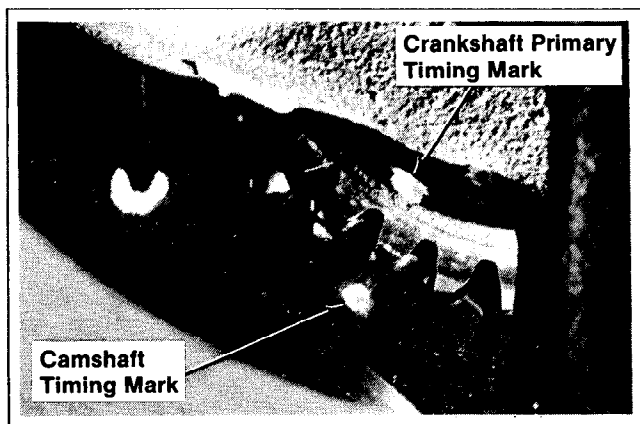

Figure 12-24. Crankshaft Gear/Camshaft Gear Alignment.
- The primary timing mark on crankshaft should align with the timing mark on camshaft. Refer to Figure 12-24.